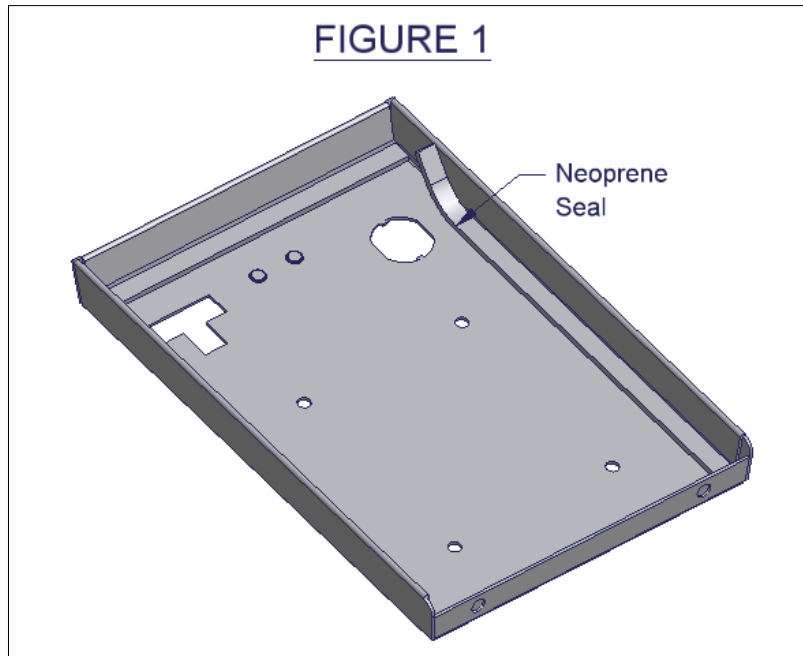
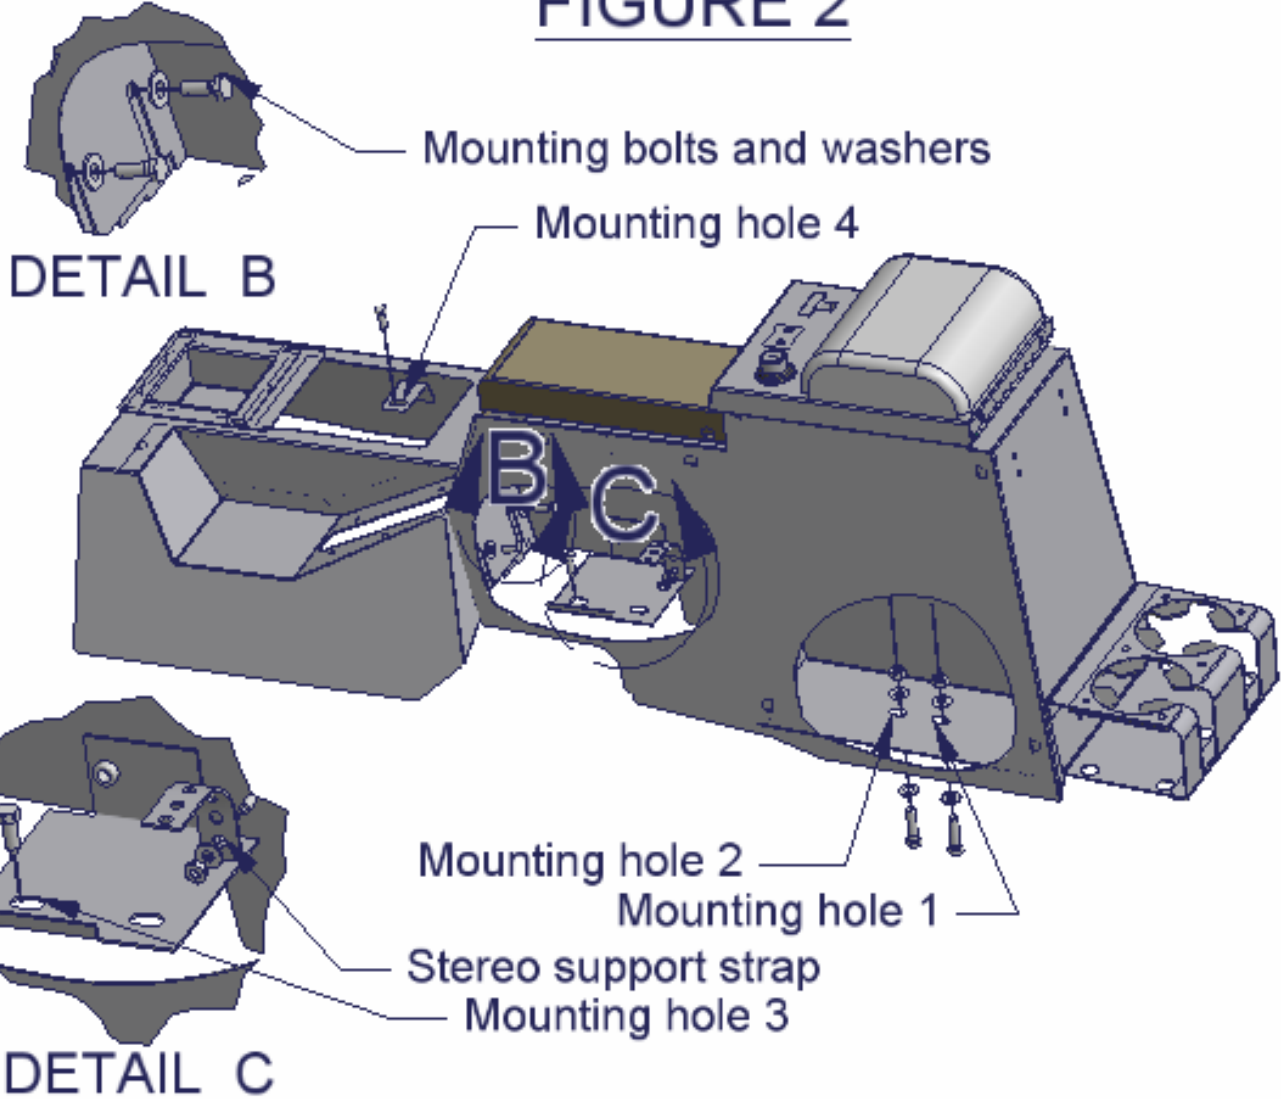

FIGURE 2
FIGURE 3
8. Drill out the two original mounting holes (HOLES 1 AND 2 IN FIGURE 2), located on the floor of the vehicle, to 3/8" diameter. (In 2001 and newer TJ's these holes (1 and 2) may not already be in the floor and will have to be drilled)
9. Install the mounting bracket using a 1/4-20 x 3/4" self tapping screw. (HOLE 3 IN FIGURE 2)
11. If applicable, install your stereo or other electronics in the console and connect all the required wires. The rear of the stereo can be fastened to the stereo support strap, which is fastened to the console using a 10-32 locknut and washer. (SEE FIGURE 2 DETAIL C) (Consult electronics owners manual for connections)
15. Attach the front shift lever console to the stereo console by sliding the slots in the front of the stereo console around the (2) 1/4-20x3/4" bolts. If the bolts are accessible tighten them until they are snug. (SEE FIGURE 2 DETAIL B)
17. Bolt the stereo console to the mounting bracket previously installed under the front compartment using a 1/4-20 x 1/2 screw. (HOLE 7 IN FIGURE 3)
18. Insert the (1) 1/4-20 x 3/4" screw in the bracket under the gearshift boot in the front shift lever console (HOLE 4 IN FIGURE 2). In 1997 – 2000 TJs - Insert (2) 1/4-20 x 3/4" screws in the passengers side of the console. (HOLES 5 AND 6 IN FIGURE 3)
19. Bolt the console down using the (2) 5/16" bolts, (2) 5/16" nuts, and (4) 5/16" washers (IN HOLES 1 AND 2 IN FIGURE 2); push at least one bolt up from the bottom for added security.